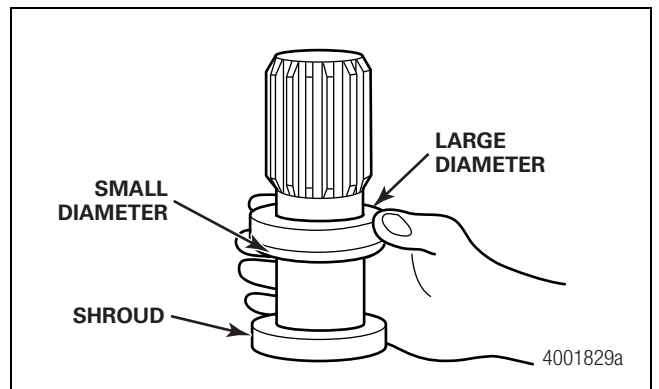

Figure 4.21
5. Install the new seal onto the spline shaft neck. Ensure that the small diameter side fits onto the splines first. Figure 4.21.